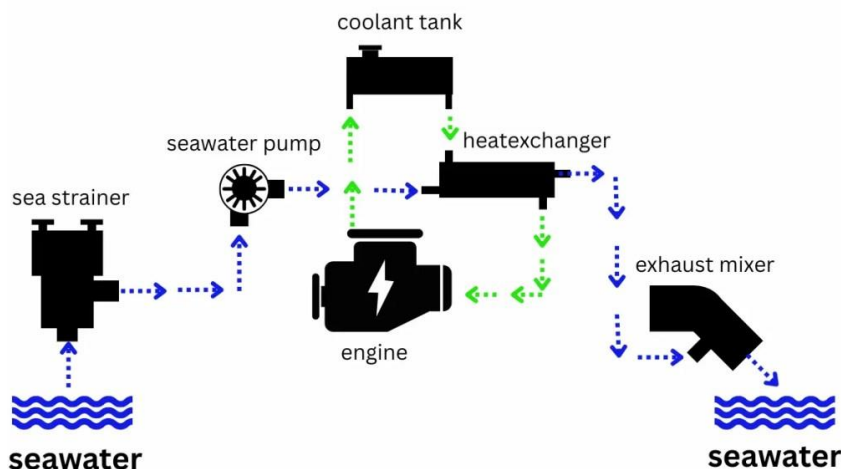

Fig. 3. Cooling system flow chart
8. Look at the cooling system flow chart (Fig. 3) and explain how this system works.